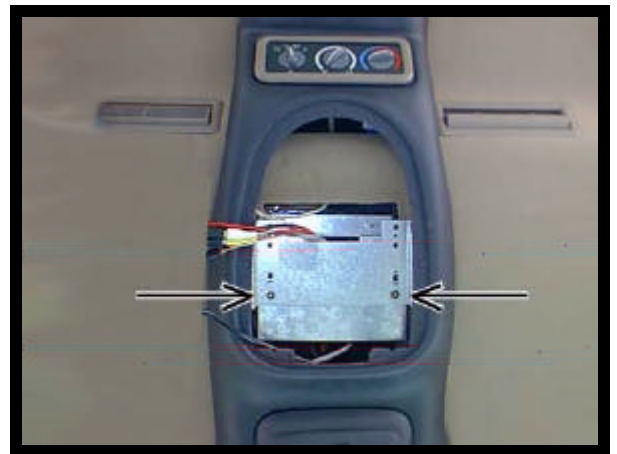

Figure 17
3. Loosely fit console against headliner. Check that console is centered in vehicle and matches all contours of headliner. While supporting console in mounting position, loosely install using two (2) 6-32 X 3/4" screws (item 10 pg 2) through the smaller holes in bracket on console into threaded clips on mounting bracket. See Figure 17.
4. Secure front of console using two (2) # 8 X 1 1/4" PWH screws (item 3 pg 2) in front of console. See Figure 17. **Caution: Do not overtighten screws or damage to vehicle roof may occur.**
5. Open sunglass holder on O.E. console. Install two (2) # 8 x 1 1/4" PWH screws (item 3 pg 2) in dimple area. See Figure. 17. **Caution: Do not overtighten screws or damage to vehicle roof may occur.**